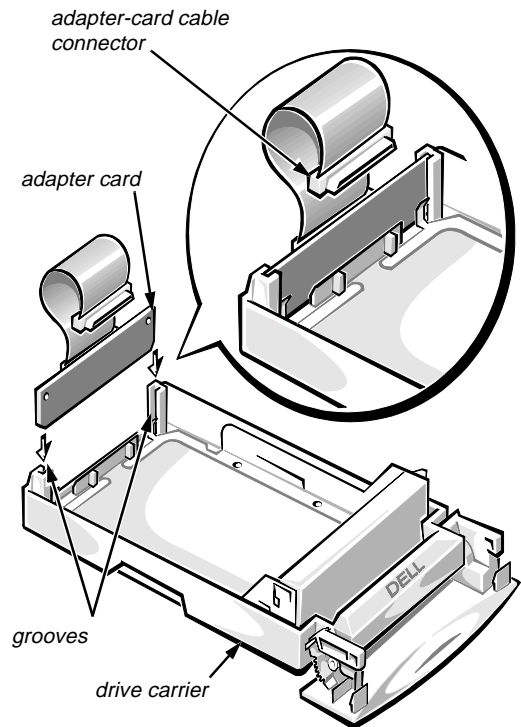

Figure 3-2. Installing the Adapter Card
- a. Hold the adapter card so that the adapter-card cable connector is facing into the carrier (see Figure 3-2). The adapter-card cable connector is at the loose end of the adapter card cable. The SCSI backplane board interface connector is soldered onto the adapter card; it should be facing away from the carrier.